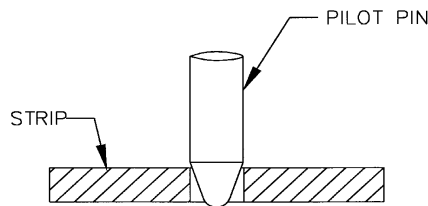
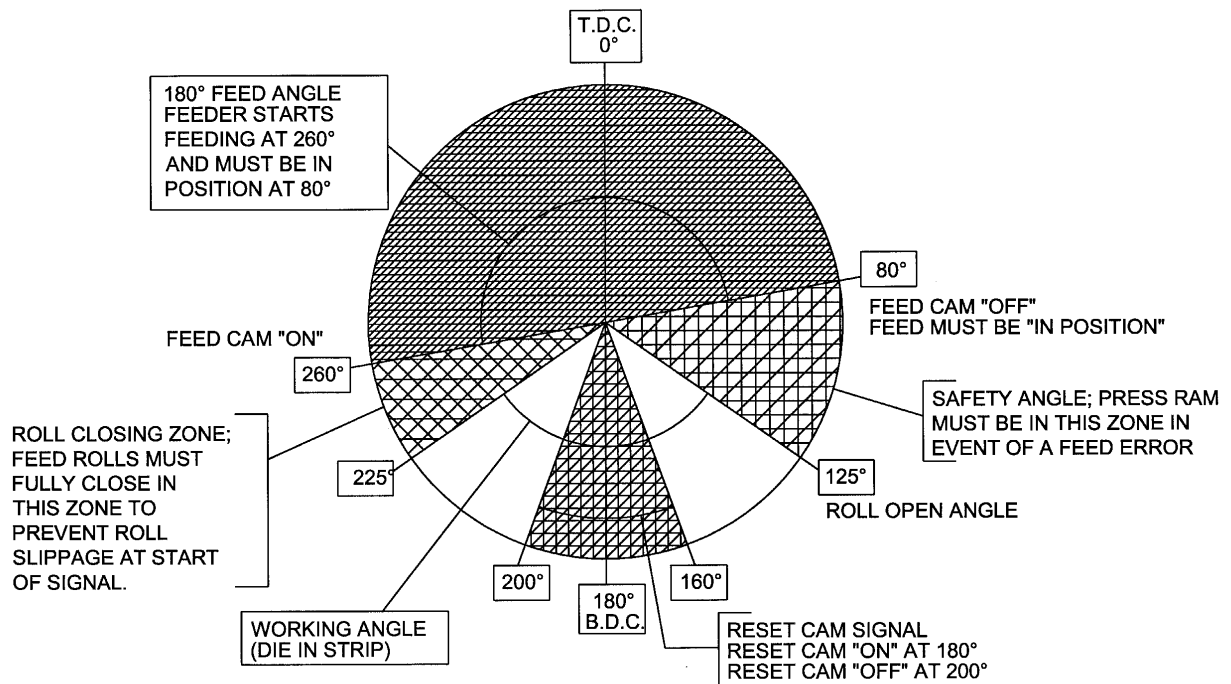

FIGURE 4
FIGURE 5
8. Jog the press down slowly observing when the longest pilot would engage the pilot hole in the material if the material were there. (Refer to Figure 4.) Note the press positional readout and put this setting into your Programmable Limit Switch (PLS) for the '**Pilot Release On**' setting. The '**Pilot Release Off**' setting, in most cases, should be 180°. (See Figure 5.) Some drawing applications require the rolls to remain open past 180°.
9. Continue to jog the press slowly until the longest pilot just comes out of the material. Note the press positional readout and put this setting into your PLS for the '**Feed Cam On**' setting. Set the '**Feed Cam Off**' point so that there is enough time to complete the feed length and enough time to stop the press, if there is a feed fault. (See Figure 5.)
10. Set the '**Reset Cam On**' for 180 degrees and '**Reset Cam Off**' for 200 degrees. This setting should never need changing. (See Figure 5.)